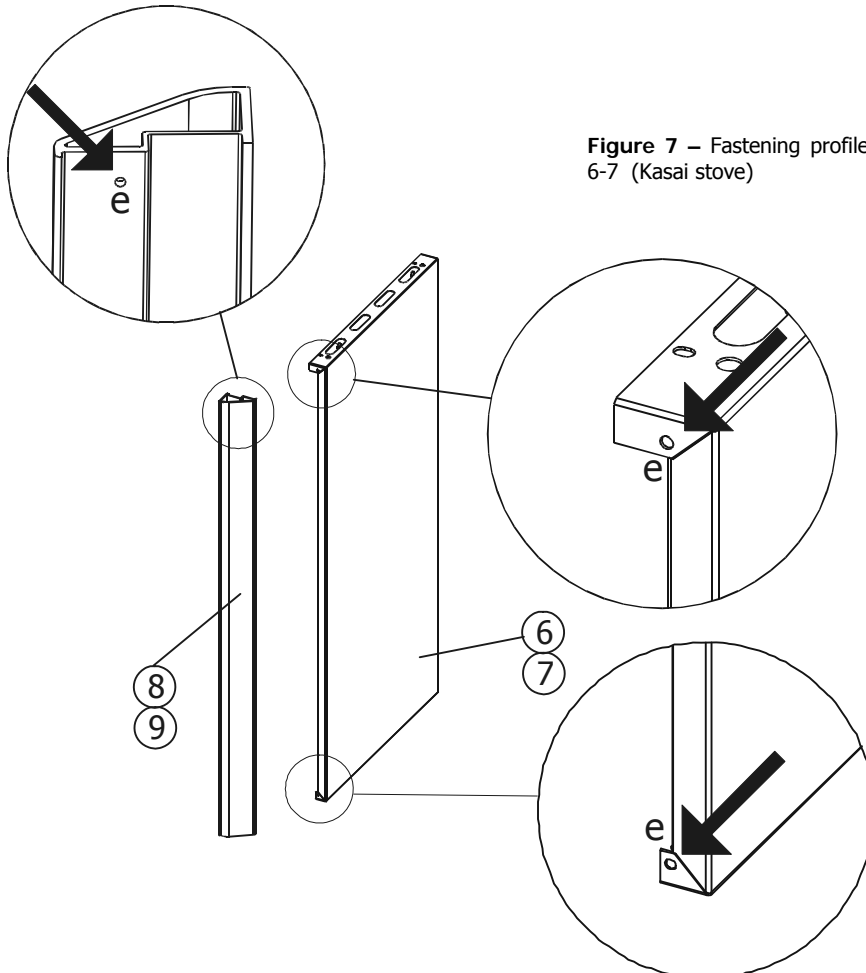

Figure 7 – Fastening profiles 8-9 to side 6-7 (Kasai stove)
3. Take the profiles ("8 and 9") and secure them to the sides ("6 and 7") using two self-tapping screws in position "e" (one above and the other below) figure 7.